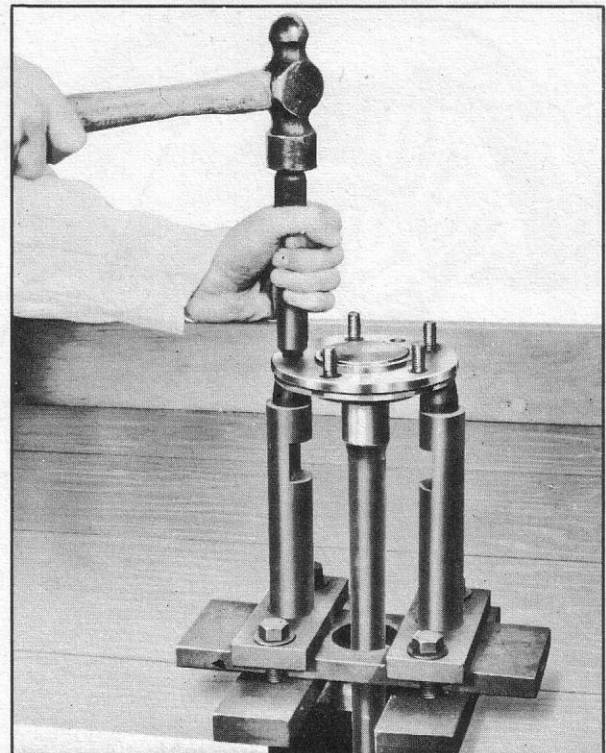

Fig. 13—Peening Flange Bolts
4. Peen end of shoulder on bolts into countersink around bolt holes in the flange, using anvil and hub bolt peening tool J-554 (fig. 13).